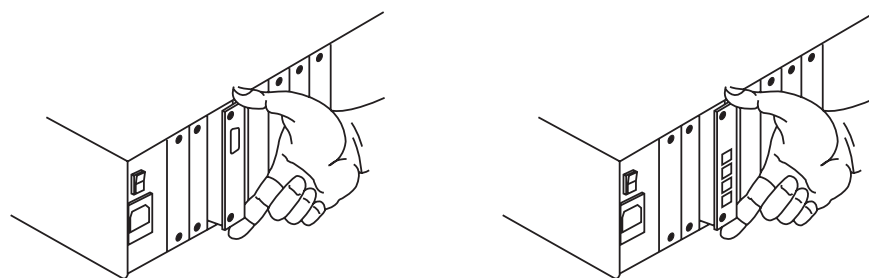

Figure 5-3. Inserting a Card in the Switch (Management Card shown at left, Serial Control Card shown at right).
4. If you look into the open slot on the Switch, you will see "guide tracks" that the top and bottom of the Card should slide along when you install it. Slide the new Management Card or Serial Control Card gently into the slot along these tracks, until the Card's connector or connectors line up flush with the back of the unit, as shown in Figure 5-3.